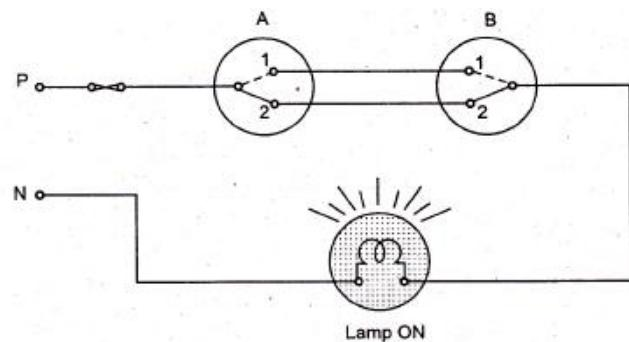

Fig. 21 ON position of lamp
When person changes position of Switch A from (1) to (2) then lamp gets phase through Switches A and B it gets switched ON as shown in fig. 21.